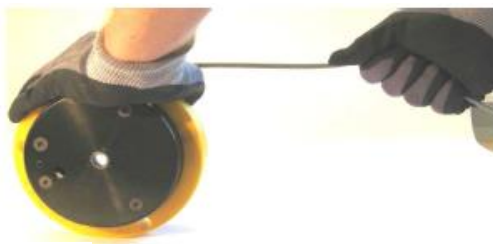

Bild 1
3.	Hold the yellow wire rope guide, grasp the wire rope, and pull it out. Pull out as much of the wire rope as possible. See figure 1.